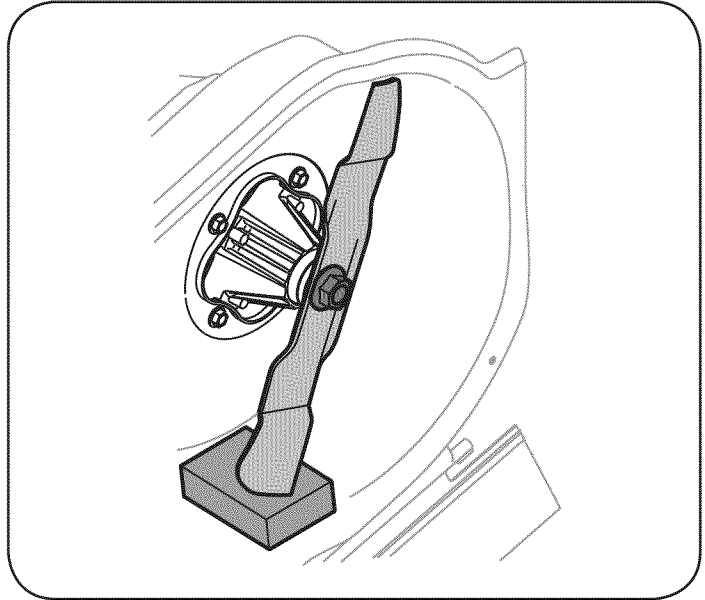

Figure 14
3. Place a block of wood between the center deck housing baffle and the cutting blade to prevent the blade from turning when loosening the blade's hex flange nut. See Figure 14.